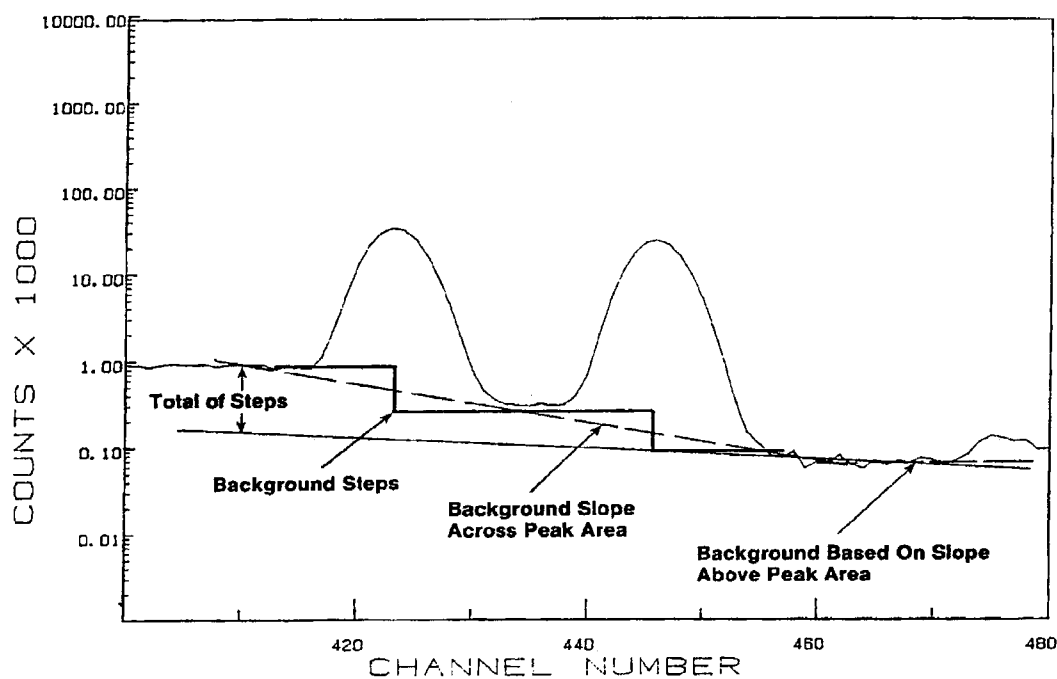

Figure 244. Stepped Background.
- 1) Stepped background is used if the slope of the peak background across the peak area is less than the slope of the background adjacent to the high-energy side of the peak. That is, if the background under the peak is declining faster than the background above the highest-energy peak in the background, the stepped background is selected; see Fig. 244.
The total height of the background steps is the difference between the background below the peak region and the value of the peak background above the peak region projected back to the background point at the low-energy end of the multiplet; see Fig. 244. The size of the step inserted at each peak centroid is proportional to the height of the peak. The result is then smoothed. This background is calculated after the deconvolution, the net spectrum is recalculated, and the deconvolution is repeated.